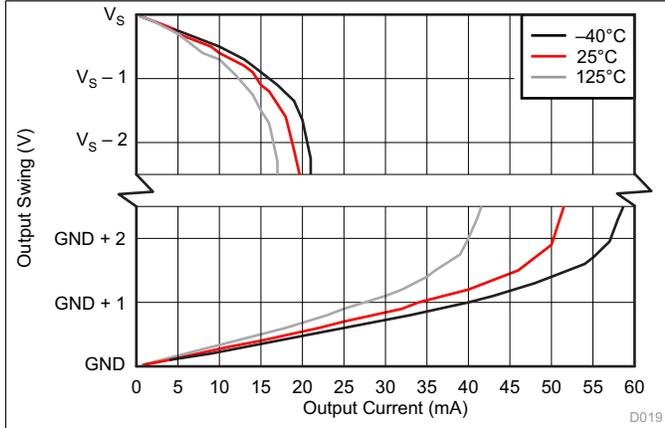

图 19. Output Voltage Swing vs Output Current
(1) RTI = referred-to-input.
(2) Offset voltage is obtained by linear extrapolation to $V_{SENSE} = 0\text{ V}$ with $V_{SENSE} = 10\%$ to 90% of full-scale-range.
(3) See Figure 19.
(4) Swing specifications are tested with an overdriven input condition.